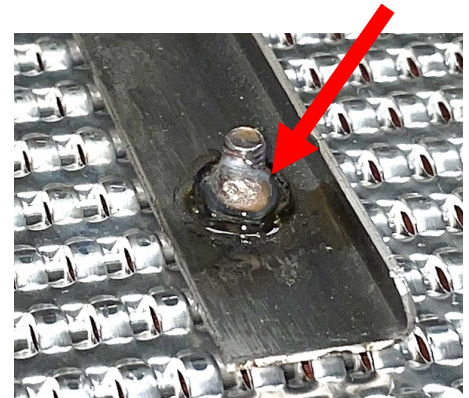

Figure 2
3. Replace with the new 1081029SP or 1067330SP Sana Grid screen with welded nuts (see Figure 2).